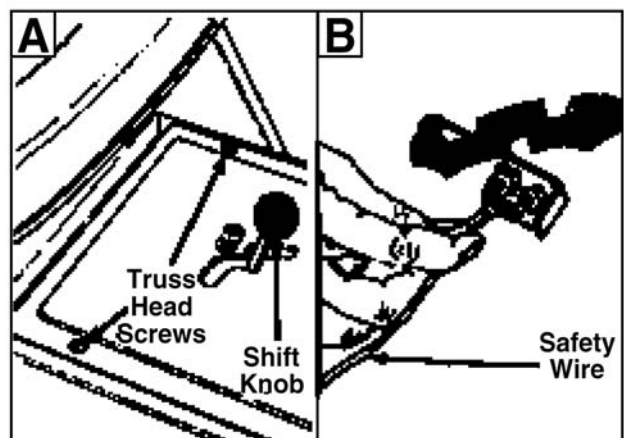

Figure 4-36. Rear Drive Belt
3. Remove the two screws and hex nut from the variable speed bracket assembly. Remove bracket assembly. See Figure 4-36.